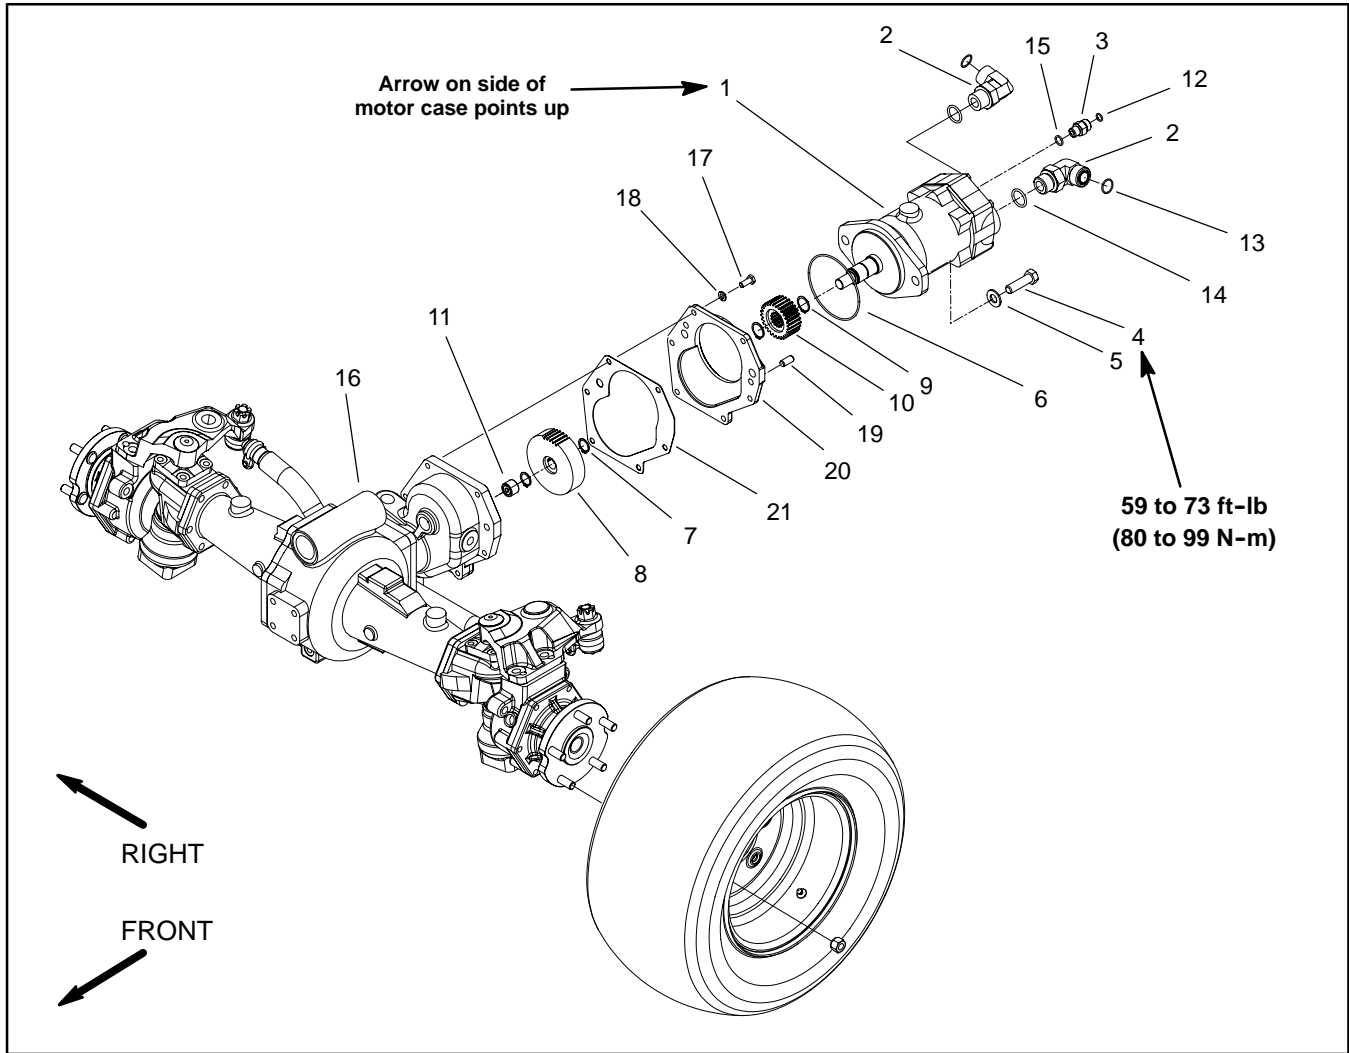

Figure 56
Removal (Fig. 56)
4. Remove motor from rear axle using Figure 56 as a guide.
Installation (Fig. 56)